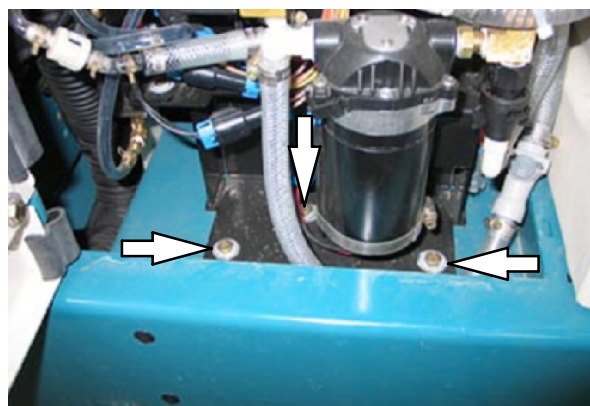

FIG. 2
3. Remove the hardware holding the FaST air pump and detergent group onto the machine and slide the FaST air pump and detergent group forward. Discard the hardware. Refer to Fig. 2.